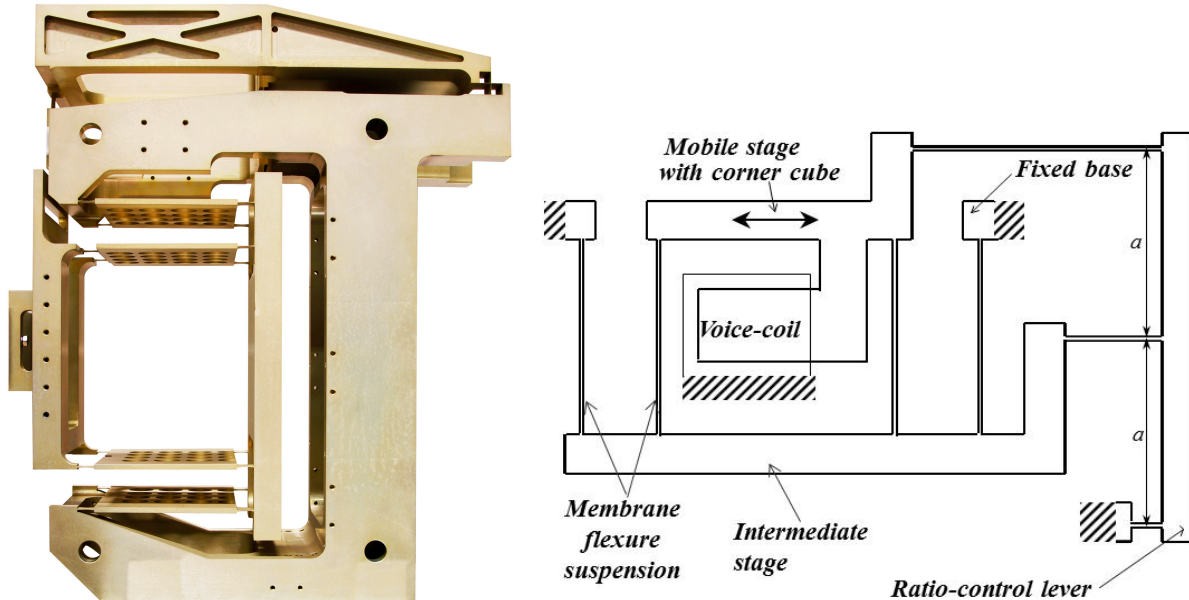

Figure 1: 13-Hinge stage
- On the Fig. 1 left, two coaxial pivots count for one pivot.